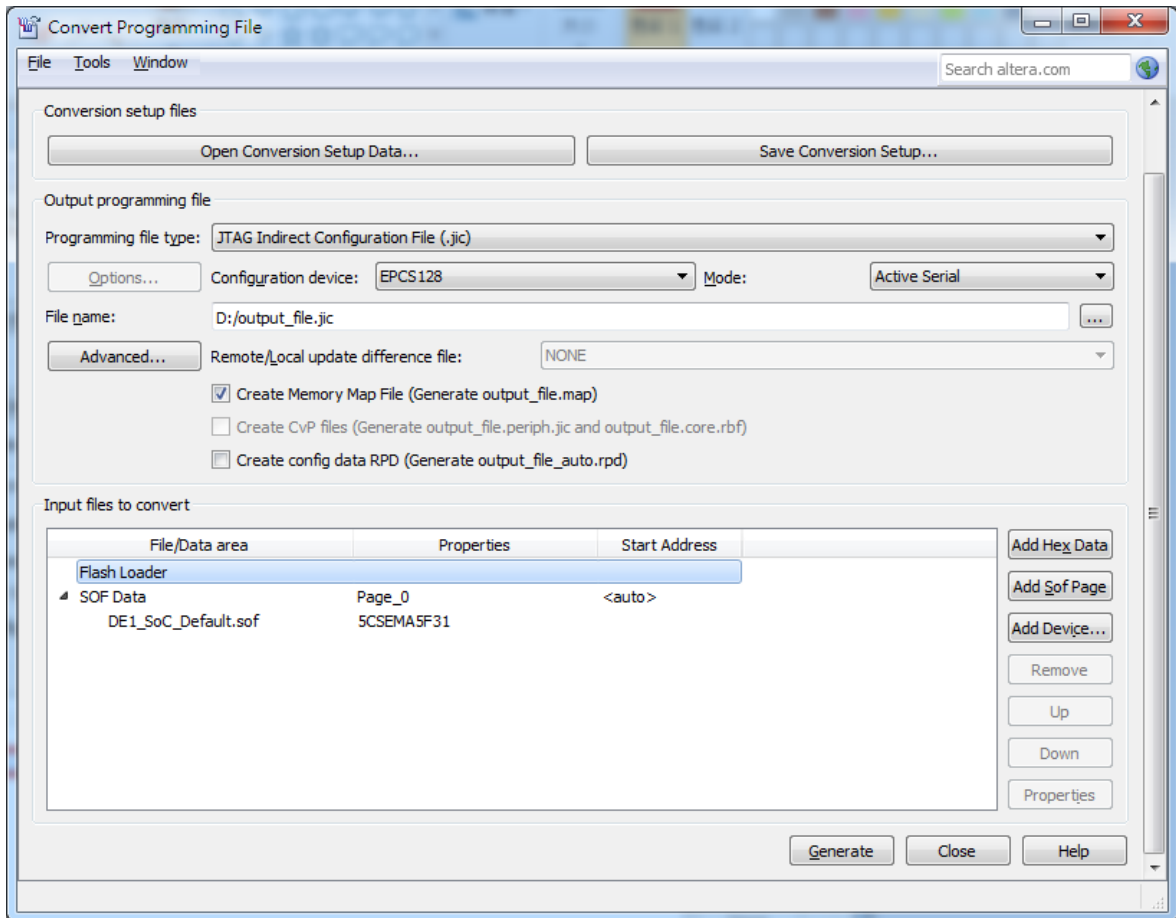

Figure 8-3 Click on the “Flash Loader”
10. Click on the **Flash Loader** and click **Add Device**, as shown in **Figure 8-3**.